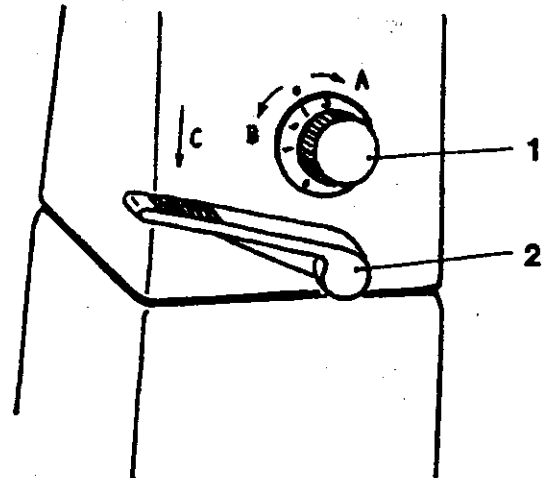

Fig. 8
1. Stitch length adjustment (Fig. 8)